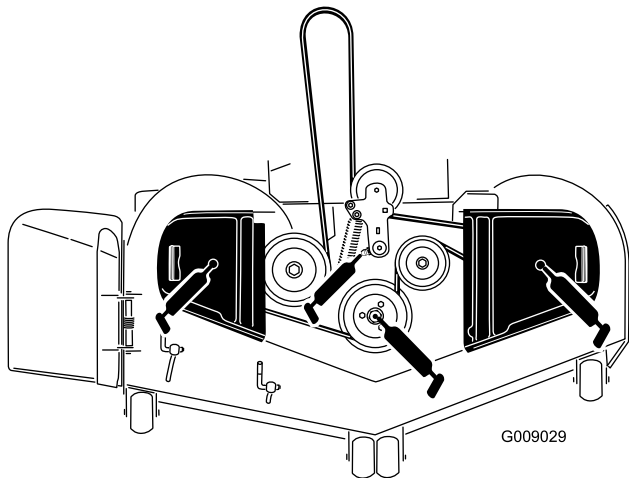

Figure 45
3. Grease the mower-deck idler-pulley pivot until grease come out the bottom (Figure 45).
4. Grease the 3 spindle bearings until grease comes out the lower seals (Figure 45).